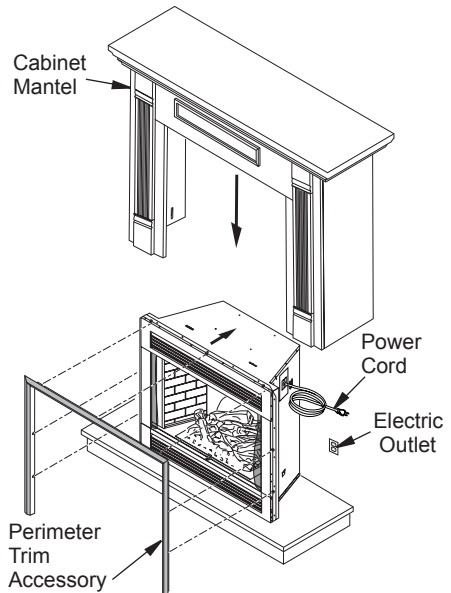
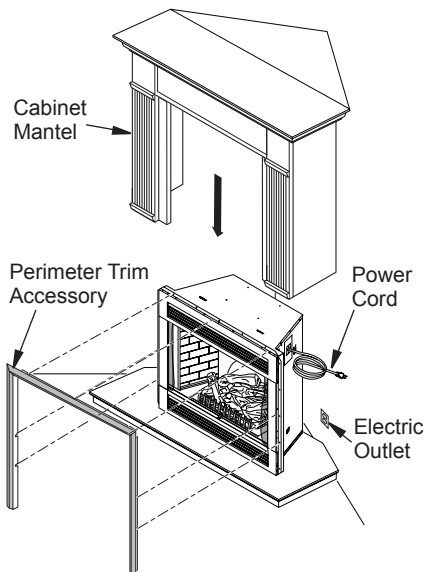

Figure 5 - Installing Flush Cabinet Mantel
Figure 6 - Installing Corner Mantel
2. Place hearth base close to wall at desired location. Leave enough room to get behind unit and attach mantel to base once fireplace and mantel has been placed. When possible, location should be within 3" of power outlet so mantel will cover outlet with installed (see Figure 5 and Figure 6, page 5).